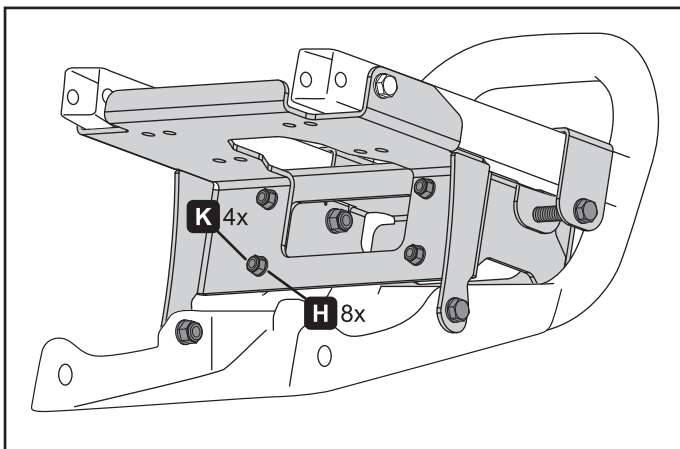

Figure 4.
4. Install bolts (F), washers (H) and nuts (K) to connect the winch mount (A) to the fairlead bracket (B). See figure 4.